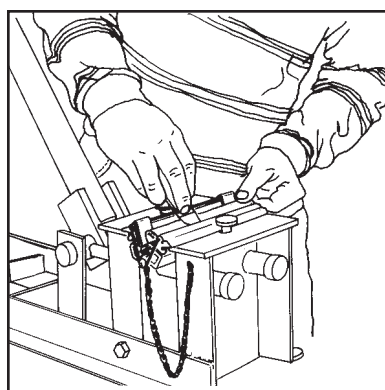

Figure 5
**8. LOWER POWER LEVER** until it comes to a natural rest and jaws are snug against hooks. Remove hook carding paper (Fig 5).